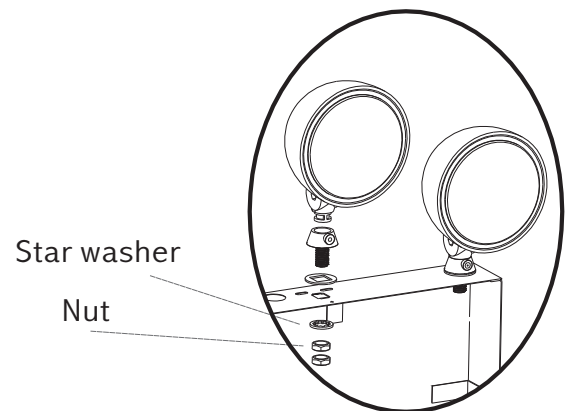

Figure 1
2. Mount the head securely with the included nut (Fig. 1).